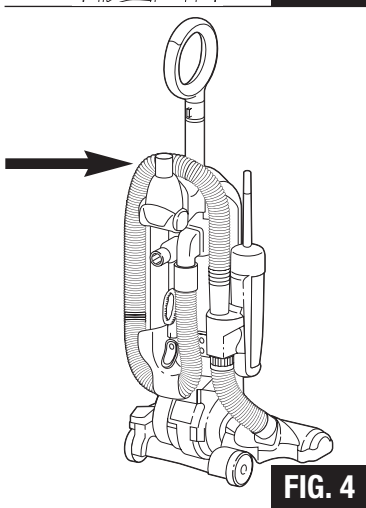

FIG. 4
Step 6: Place the hose on the back of the vacuum, wrapping it up and over the hose hook as shown (FIG. 4).